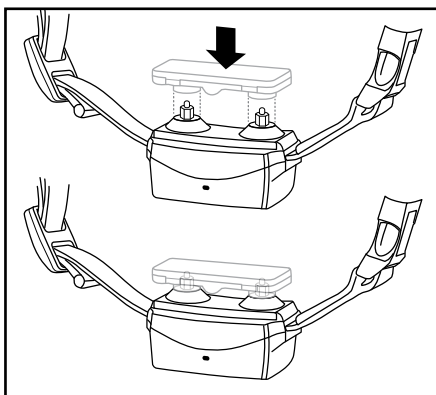

figure 21
- Place the Test Light holes directly onto the Receiver Collar probes. (fig. 21)